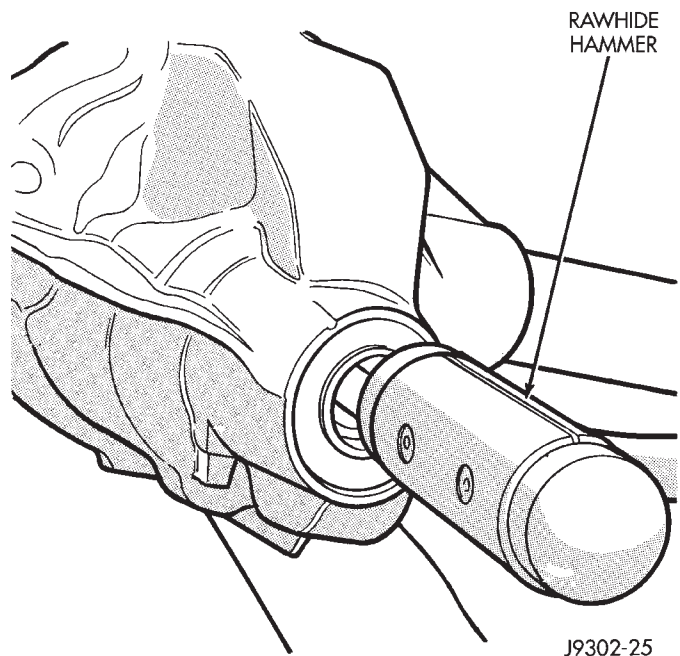

Fig. 15 Remove Pinion Gear
- (1) Raise and support the vehicle.
- (2) Remove wheel and tire assemblies.
- (3) Remove brake rotors and calipers. Refer to Group 5, Brakes, for proper procedures.
- (4) Mark the propeller shaft and pinion companion flange, for installation reference.
(5) Remove the propeller shaft from the pinion companion flange.
(6) Rotate the pinion gear a minimum of ten times. Verify that the pinion rotates smoothly.
(7) Measure the amount of torque necessary to rotate the pinion gear with a (in. lbs.) dial-type torque wrench. Record the torque reading for installation reference.
(8) Remove differential assembly from axle housing.
(9) Using Holder 6958 and a short length of 1 in. pipe to hold the pinion companion flange, remove the pinion nut and washer.
(10) Using Remover C-452 and Wrench C-3281, remove the pinion companion flange from pinion shaft.
(11) Remove the pinion gear from housing (Fig. 15). Catch the pinion with your hand to prevent it from falling and being damaged.
(12) Remove collapsible spacer from pinion shaft.